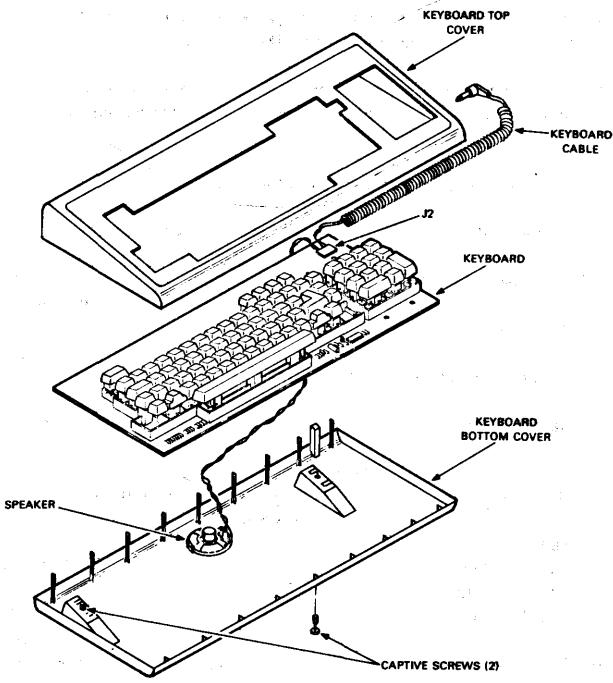

Figure 5-4 Keyboard Disassembly
- With a blade-type screwdriver, loosen the captive screws holding the keyboard together (Figure 5-4).